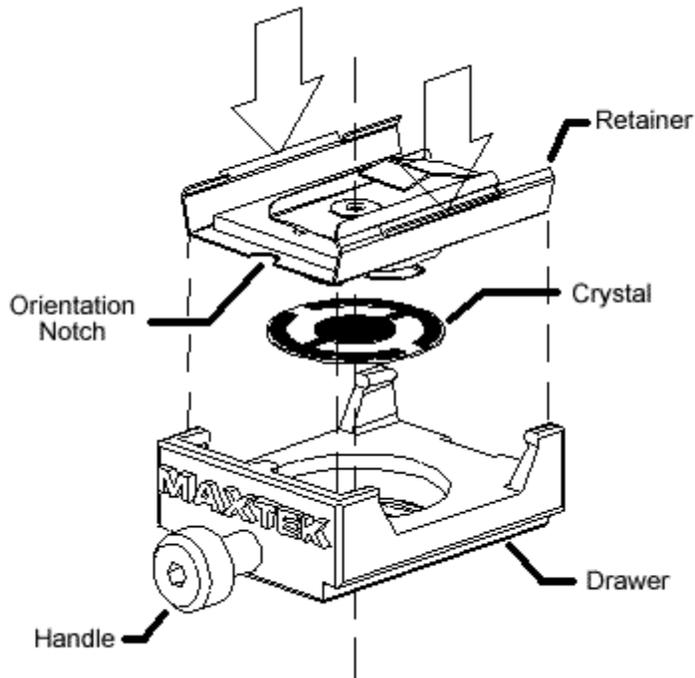

Figure 2 Installing the Retainer
- Install a new crystal in the drawer. Observe its orientation. The pattern electrode should be up as shown in Figure 2.
- Hold the retainer by its sides. Align its orientation notch with the drawer then gently and evenly push the retainer down until it snaps firmly into the drawer. See Figure 2. Never push down (or pull up) on the contact spring, doing so may permanently damage it.